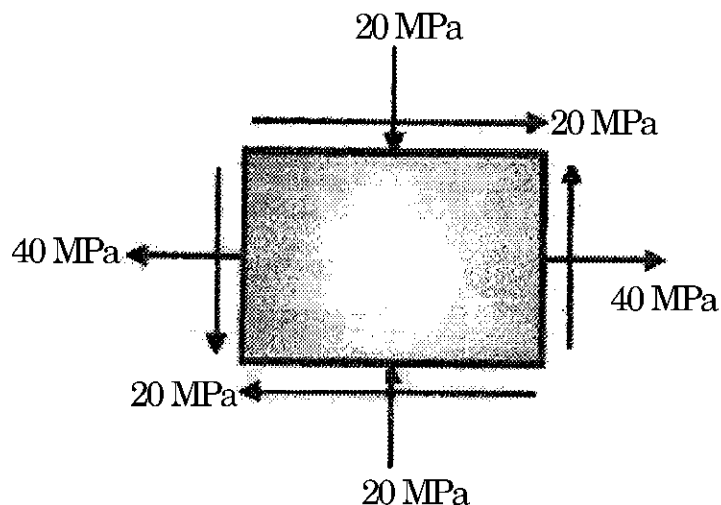

Fig. 4
- (b) At a point in a strained material, stress pattern is as shown in Fig. 4. Determine : [10]